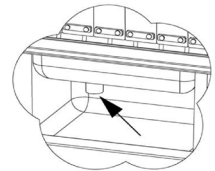

Fig 2
4. When cleaning cycle is finished drain water box by removing plug (Fig 2)